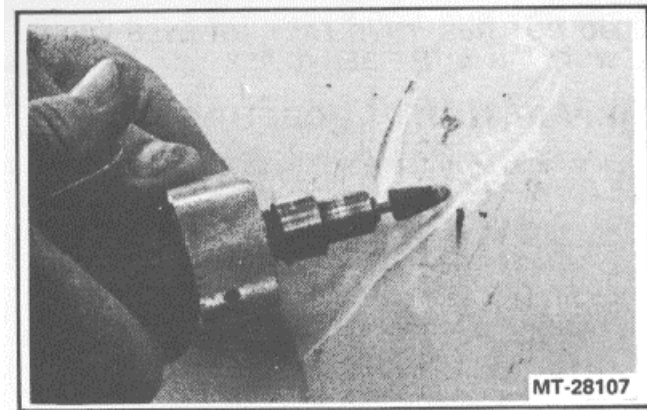

Figure 8. - V-Groove
1. Use a burr bit on a power drill to form a V-groove for the length of the scratch or gouge (Figure 8). The sides of the V should be tapered no more than 45 degrees.